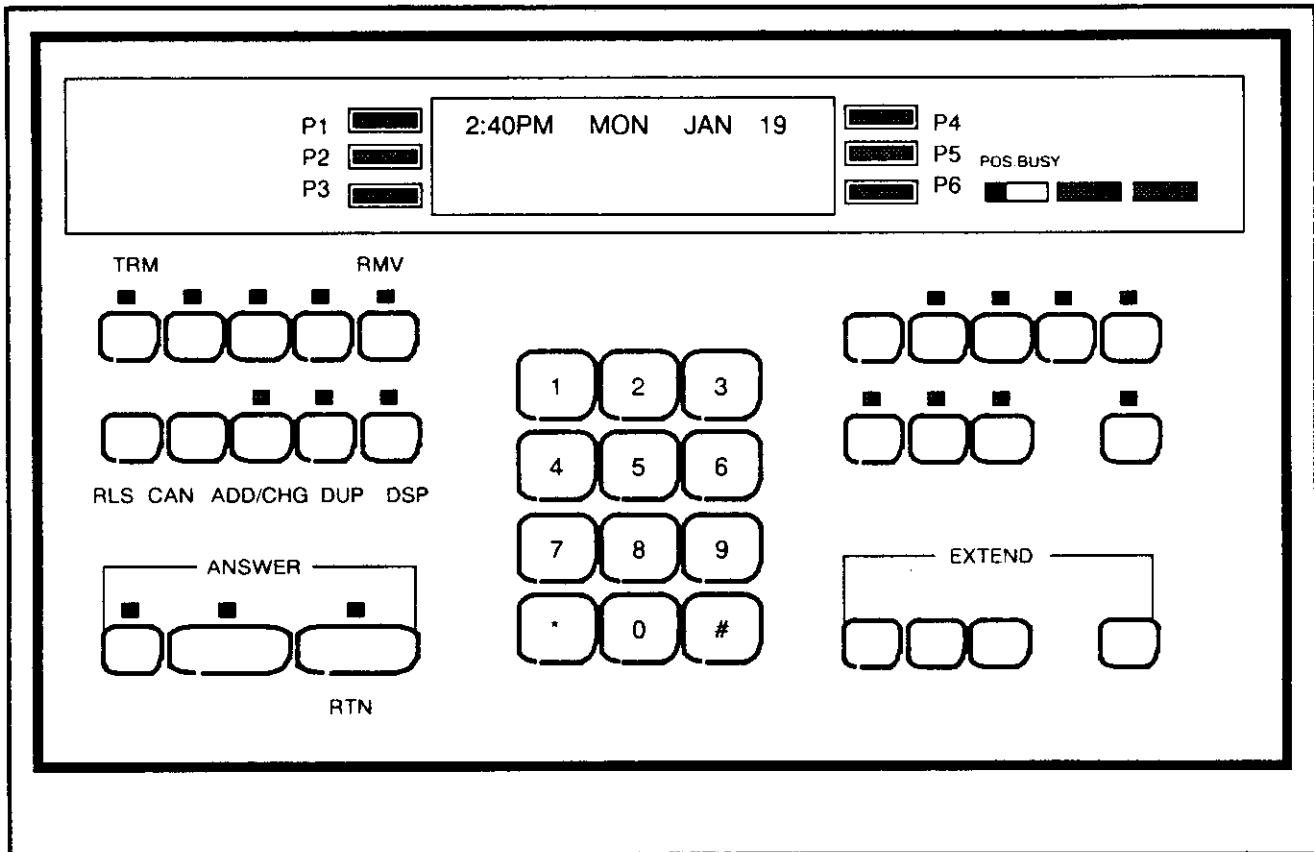

Figure 2.2 Key Assignments for an Attendant Console in MCT Mode
2.1.2.2 Figure 2.2 shows the the key assignments for an Attendant Console in MCT mode. Table 2.2 list the function key assignments and describes the function of each key.